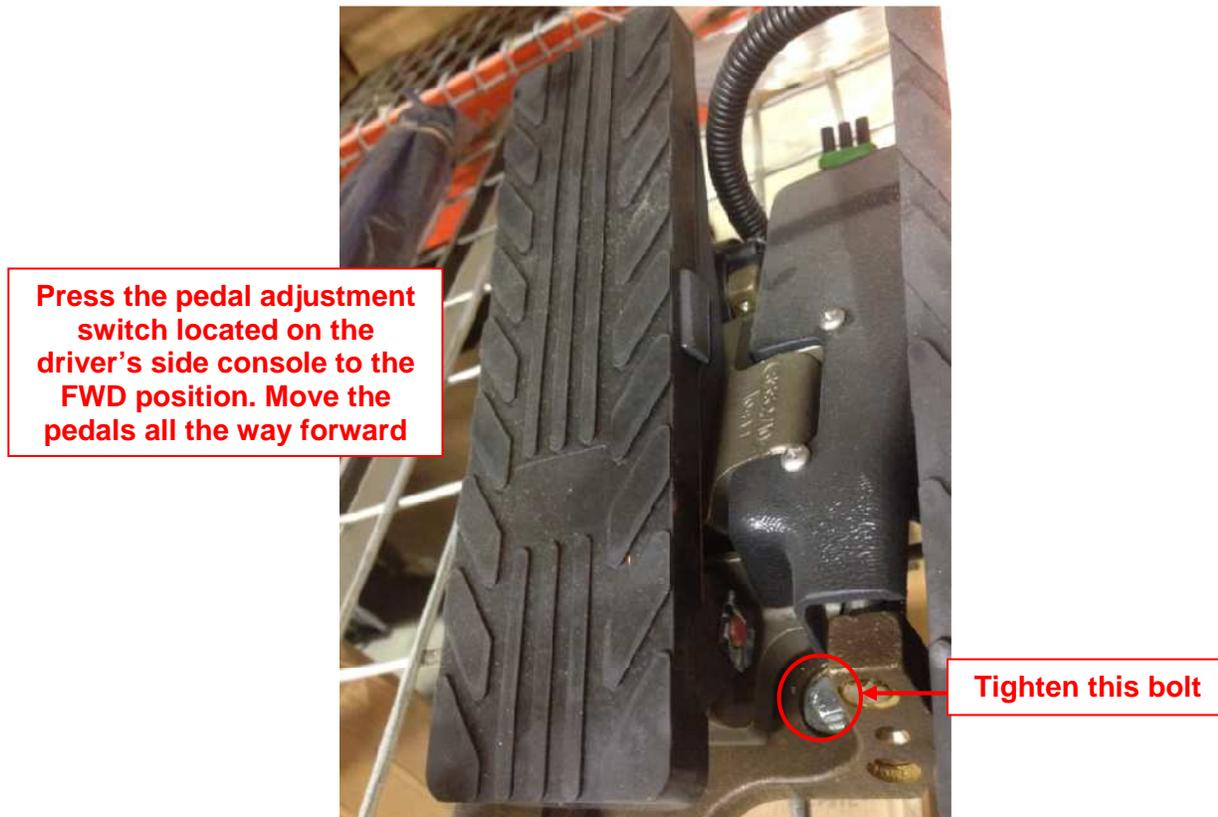

Figure 15: Move the Pedals Forward
35. Press the pedal adjustment switch located on the driver's side console to the FWD position. Move the pedals all the way forward to get access to the bolt head that was previously blocked by the pedal mount, see Figure 15. Tighten the bolt.